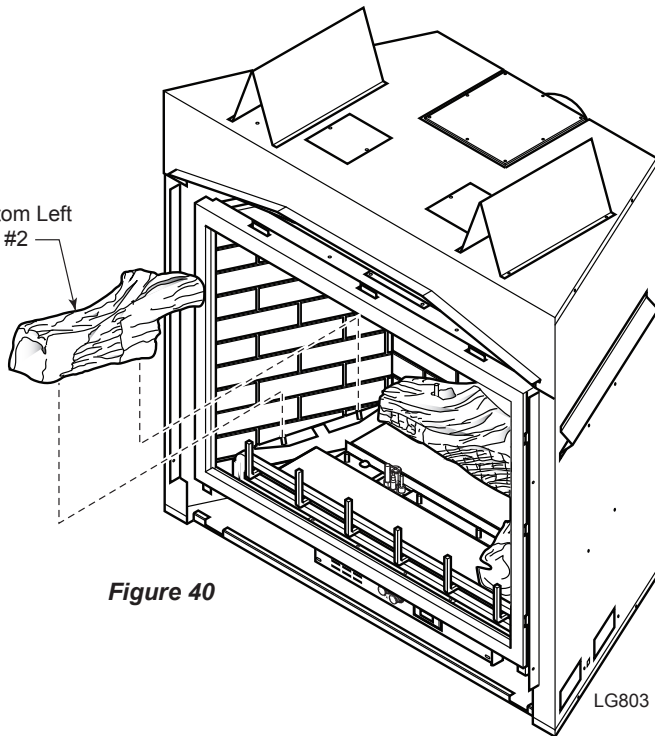

Figure 40
- 5. Place bottom left log (#2) on two pins against left side of firebox. *Figure 40*